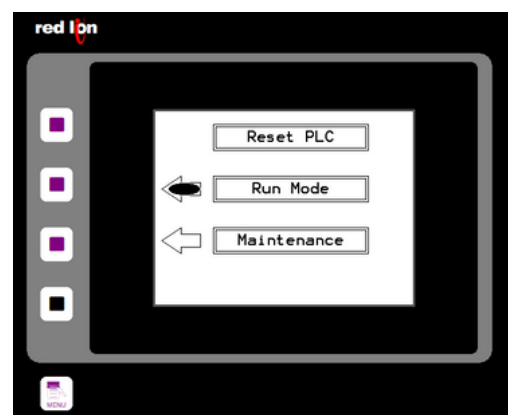

Figure 2.2. Confirmation of run mode selection on the deck service box.
- 6 Press the **Menu** button on the bottom left corner of the deck service box. Then select **run mode** (Figure 2.2). Press run mode again to confirm your selection.